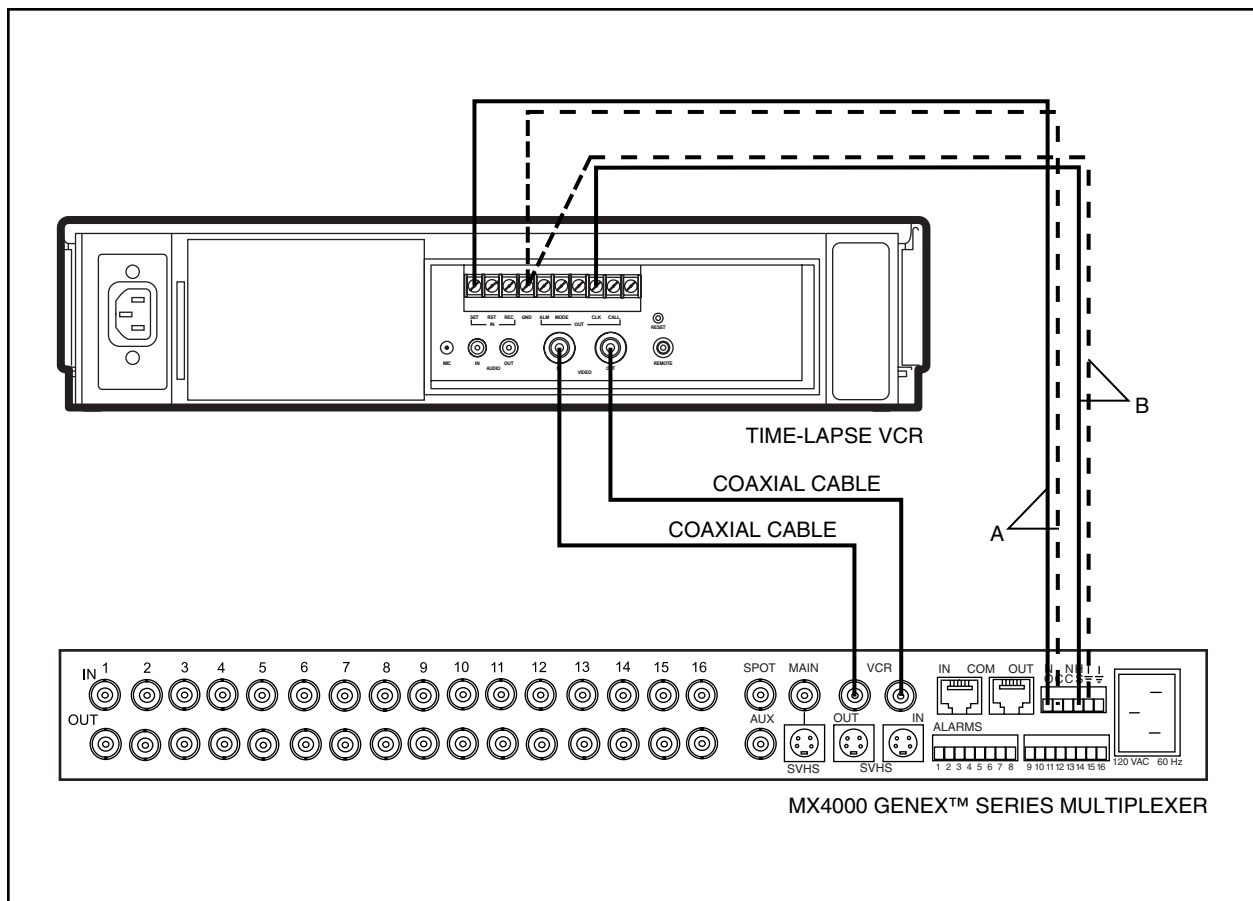

Figure 2. Connecting VCR to Multiplexer
Figure 2 shows how to connect the VCR to an MX4000 Series Genex™ Multiplexer.
- **For Automatic Speed Tracking (“B” lines in Figure 2)**
1. Connect the VCR’s CLK output to the multiplexer’s head switching (HS) input to synchronize camera switching.
- **For Alarm Recording (“A” lines in Figure 2)**
NOTE: Cameras and monitors are connected to the multiplexer. Figure 2 shows the connection between the VCR and an MX4000 Series Genex™ Multiplexer. Refer to the multiplexer manual for additional component connections.